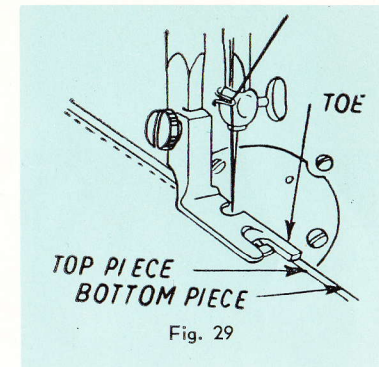

Fig. 29
1. Lay two pieces of cloth one on top of the other with their RIGHT sides facing each other. The right edge of the bottom piece must extend about  $\frac{1}{8}$  inch beyond the right edge of the top piece. See Fig. 29.
2. Sew both pieces of cloth together, using the hemmer foot like a regular presser foot. Use the right edge of long toe of hemmer foot to guide the bottom piece of material, while the left edge of the same toe serves as a guide for the top piece of material. Fig. 29 shows this detail.